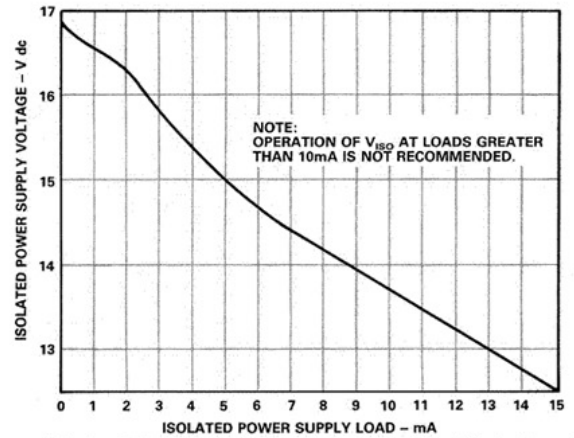

Figure 17. Isolated Power Supply Voltage (V dc) vs. Isolated Power Supply Load (mA), with  $V_S = 15$  V pk-pk, 25 kHz Square Wave
6Refer to Figure 17 for a curve illustrating the load drive capabilities of the isolated power supply.
**Isolated Power Supply.** The load characteristics of the AD208's isolated power supplies are plotted in Figure 17. It is recommended that the isolated power supply load not exceed 10 mA as permanent damage to the internal power circuitry of the AD208 may occur.